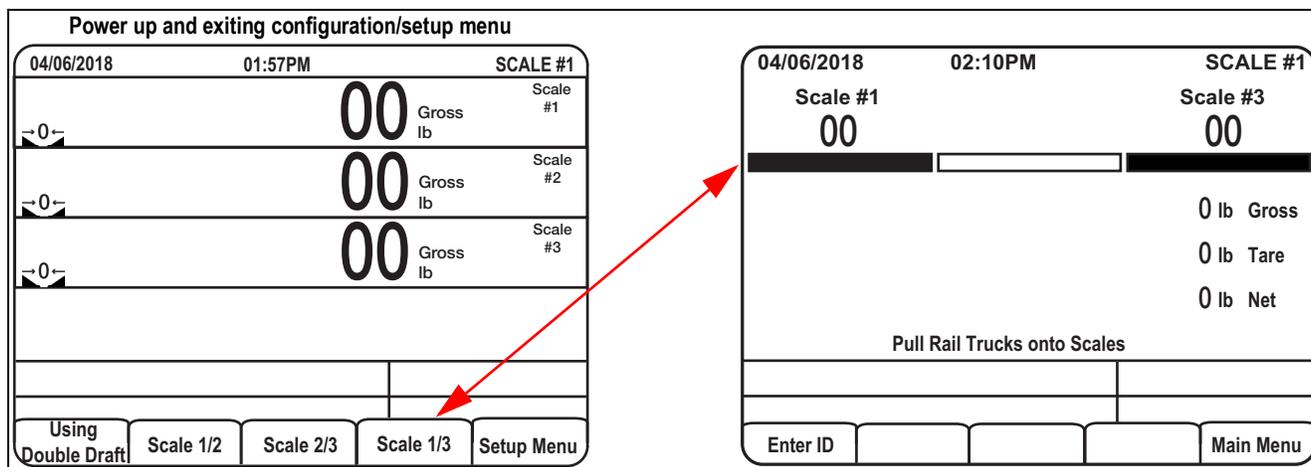

Figure 2-4. 920i Main Screen Using Full-draft
1. Ensure the first softkey on the 920i is displayed as **Using Full Draft** (see Figure 2-4). If not press the **Using Double Draft** softkey to change to full-draft mode.